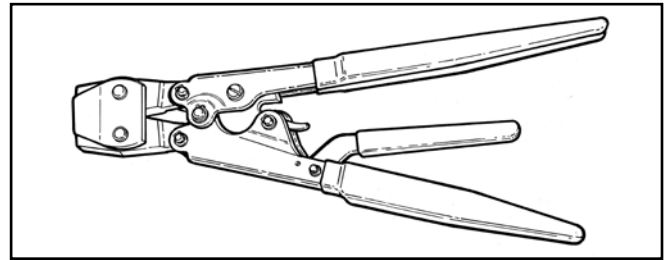

Fig. 1: Item no. 14100280
1. **3-Handle Ratchet Pincer** (Fig. 1)